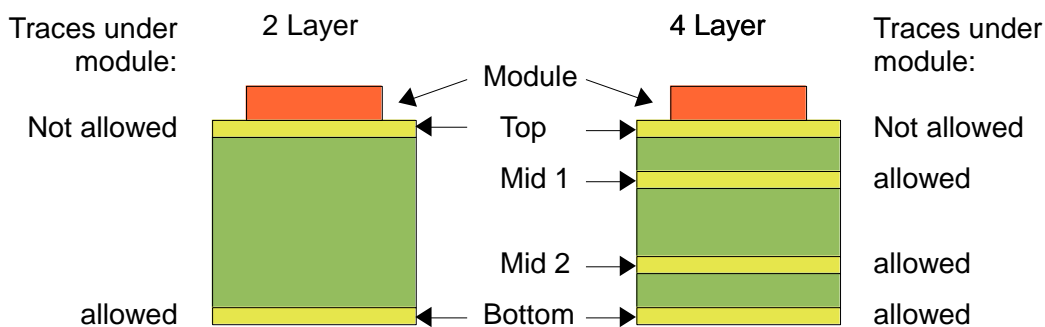

Figure 9-2: Layer design of 2 and 4 layer boards
- Traces on top layer are not allowed under the module (see **Figure 9-2**)
- Traces on mid layers and bottom layers are allowed (see **Figure 9-2**)